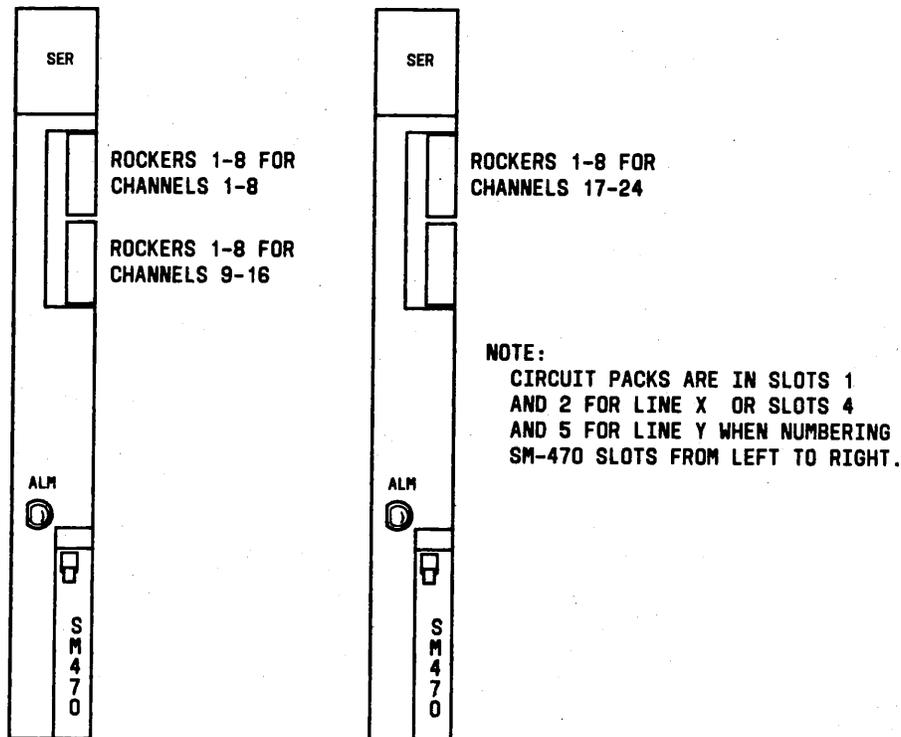

Fig. 15—16-MS Tail for Channels 1 Through 24
- To provide echo canceling for all 24 channels, specify circuit packs SM470 be installed in slots 1 and 2 for line x or slots 4 and 5 for line y. Figure 15 shows which rockers apply to which channels.